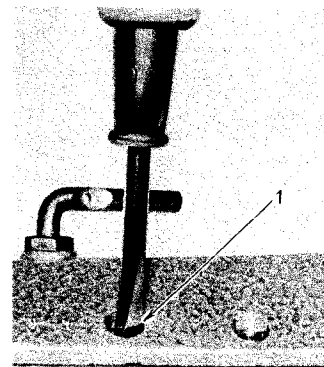
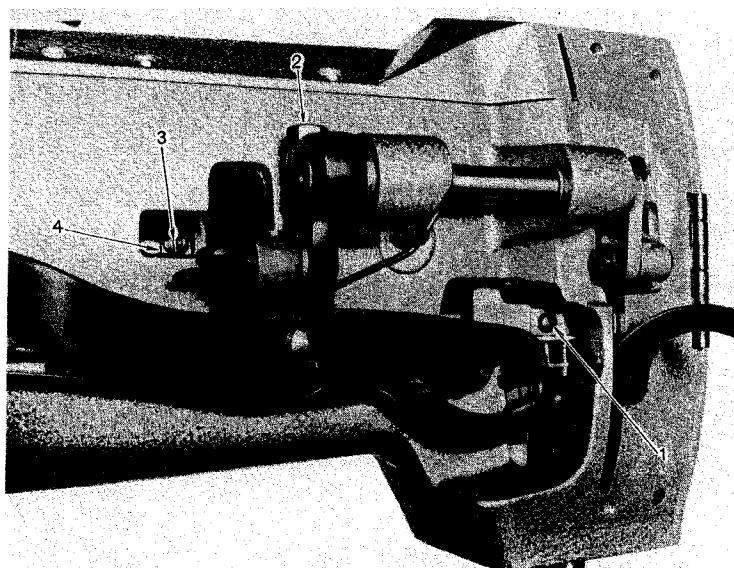

Fig. 11
Fig. 23
Loosen the screw (1, Fig. 11), raise the presser bar lifter and loosen the set screw (1, Fig. 23).
A. Descend the presser bar lifter, holding the vibrating presser foot (5, Fig. 4), loosen the hexagon screw (2, Fig. 23), move the presser foot up or down as may be required.
To adjust this, set the lift of alternating presser feet to equal, loosen the screw (3, Fig. 23) and adjust the rotating position of the cam (4, Fig. 23) faster or slower as desired, and tighten the screw.